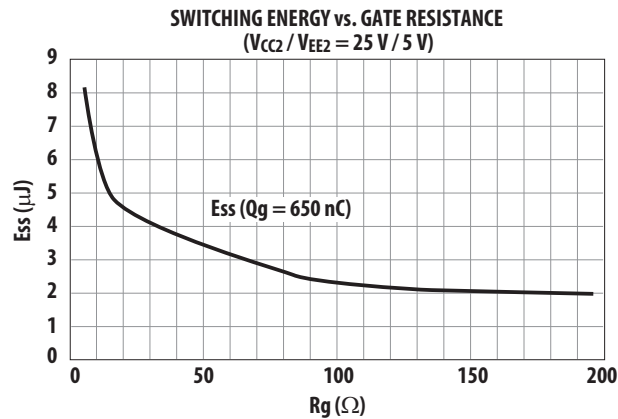

Figure 76. Switching energy plot for calculating average P_{switch} (for ACPL-36JV output driving an IGBT rated at 600 V/100 A).
2. Calculate total power dissipation in the part referring to Figure 76. (Average switching energy supplied to ACPL-36JV per cycle vs. R_G plot);
For $R_G = 10.5$, the value read from Figure 76 is $E_{SWITCH} = 6.05 \mu J$. Assume a worst-case average $I_{CC1} = 16.5 mA$ (which is given by the average of I_{CC1H} and I_{CC1L}). Similarly the average $I_{CC2} = 5.5 mA$.